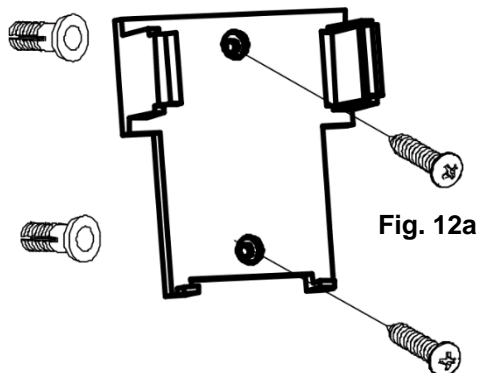

Fig. 12a
- Locate a suitable wall to fix the remote control holder with the 2 screws & 2 anchors. (Fig.12a).